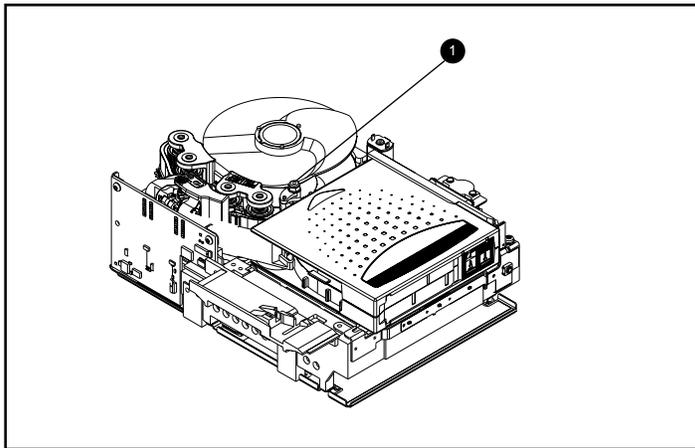

Figure D-5. Disconnecting the leader pin from the cartridge buckle
To disconnect the leader pin from the cartridge buckle ❶, use a pair of tweezers. Then place the leader pin in the hooks of the buckler (see for Figure D-5 for the buckler location).